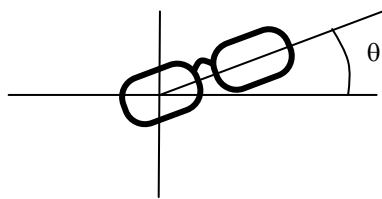

**FIG. 4 Viewing Angle**
6. Viewing angle is the angle at which the contrast ratio is greater than 10. The angles are determined for the horizontal or x axis and the vertical or y axis with respect to the z axis which is normal to the LCD module surface. For more information, see the FIG. 4.